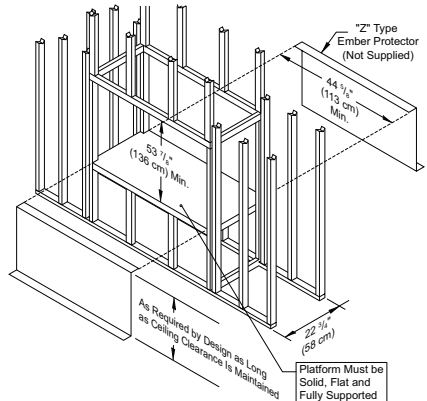
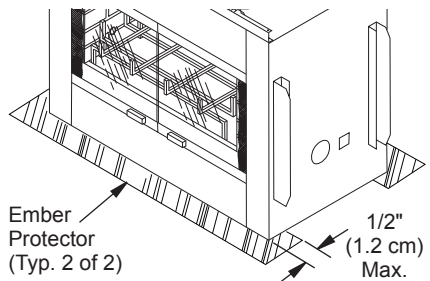
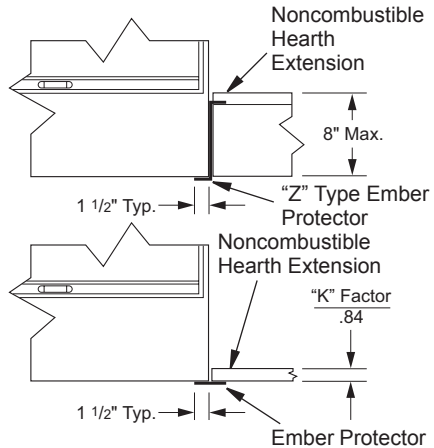

Figure 7 - Framing Firebox with "Z" Type Ember Protectors
Figure 8 - Ember Protectors
Figure 11 - Raised Hearth Extension
5. Before securing firebox to prepared framing, ember protector (provided) must be placed between hearth extension (not supplied) and under bottom front edge of firebox to protect against glowing embers (see Figure 8 and *Hearth Extensions* on page 6). If firebox is to be installed on a raised platform, a Z-type ember protector (not supplied) must be fabricated to fit your required platform height (see Figure 7). The ember protector should be made of sheet metal (28 gauge minimum) to prevent corrosion.
If hearth extension is to be raised, a "Z" type ember protector must be used (see Figure 7, page 5, and Figure 11)